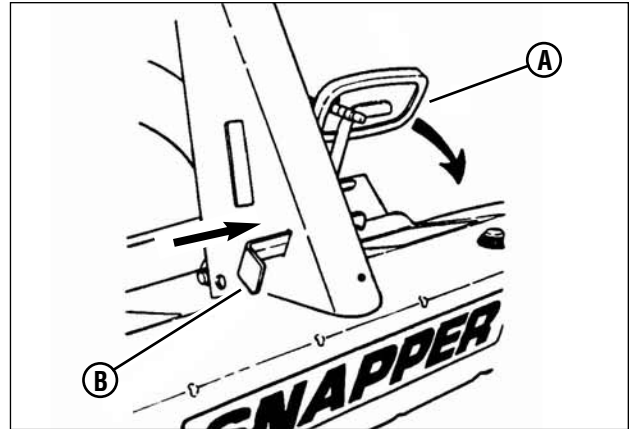

Figure 8: Setting the park brake
- Press the Clutch/Brake Pedal (**A, Figure 8**) all the way down, move the park brake latch (**B**) over, and release the clutch/brake pedal to set the park brake.